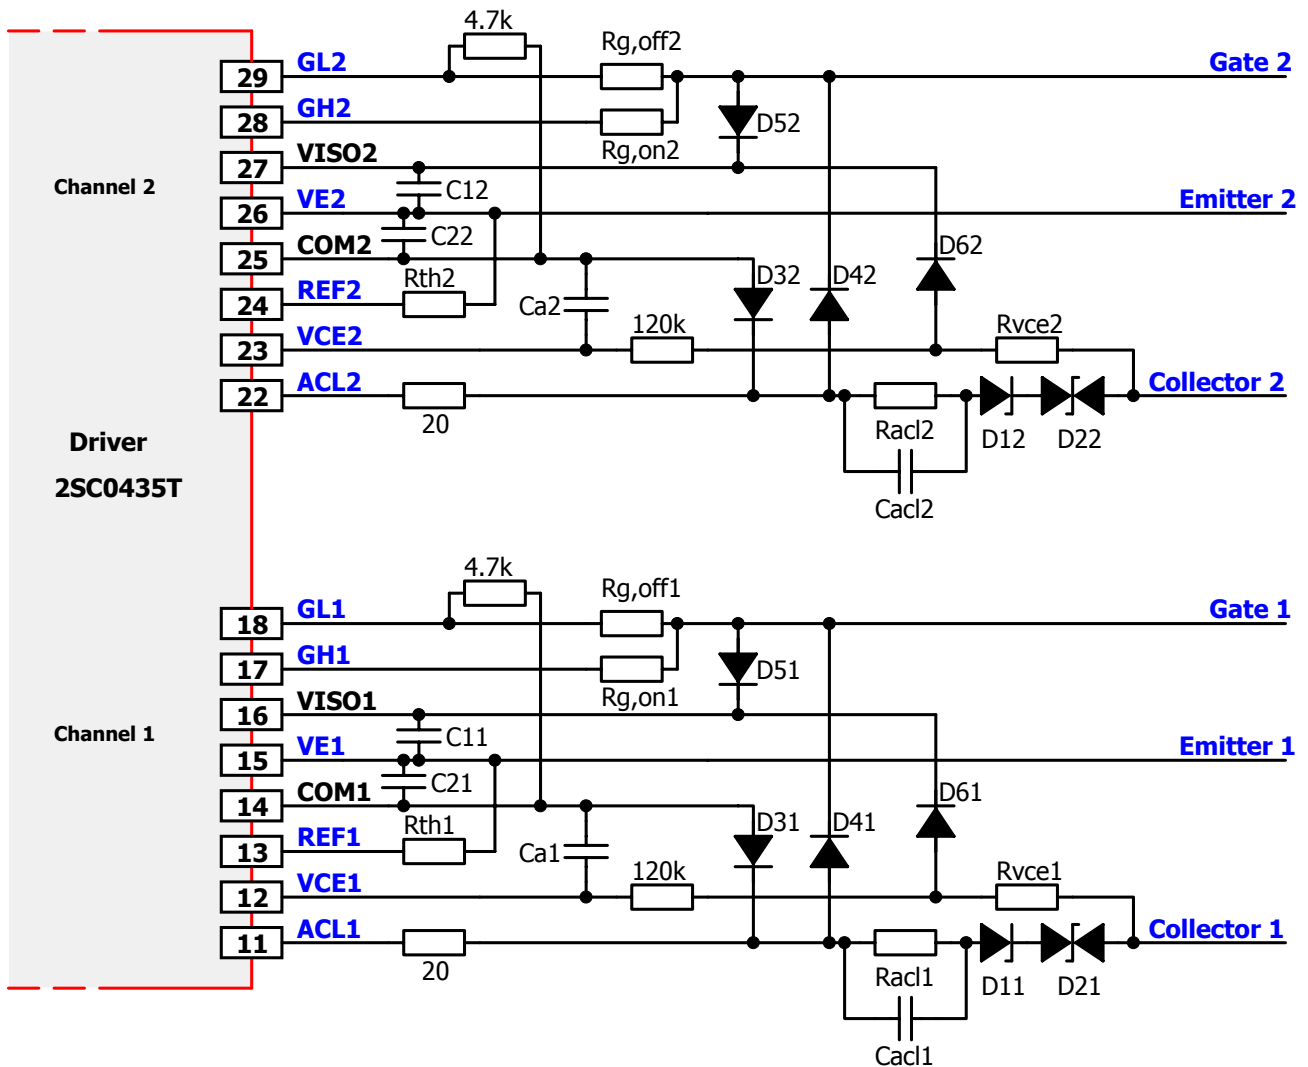

Fig. 7 Recommended user interface of 2SC0435T with advanced active clamping (secondary sides)
Power semiconductors with a gate charge of up to $3\mu\text{C}$ can be driven without additional capacitors on the secondary side. For IGBTs or MOSFETs with a higher gate charge, a minimum value of $3\mu\text{F}$ external blocking capacitance is recommended for every $1\mu\text{C}$ gate charge beyond $3\mu\text{C}$. The blocking capacitors must be placed between VISOx and VEx (C_{1x} in Fig. 7) as well as between VEx and COMx (C_{2x} in Fig. 7). They must be connected as close as possible to the driver's terminal pins with minimum inductance. It is recommended to use the same capacitance value for both C_{1x} and C_{2x} . Ceramic capacitors with a dielectric strength $>20\text{V}$ are recommended.
The collector sense must be connected to the IGBT collector or MOSFET drain with the circuit shown in Fig. 7 in order to detect an IGBT or MOSFET overcurrent or short-circuit.
Basic active clamping topologies implement a single feedback path from the IGBT's collector through transient voltage suppressor devices (TVS) to the IGBT gate. The 2SC0435T supports CONCEPT's advanced active clamping, where the feedback is also provided to the driver's secondary side at pin ACLx: as soon as the voltage on the right side of the 20Ω resistor (see Fig. 7) exceeds about 1.3V, the turn-off MOSFET is progressively switched off in order to improve the effectiveness of the active clamping and to reduce the losses in the TVS. The turn-off MOSFET is completely off when the voltage on the right side of the 20Ω resistors (see Fig. 7) approaches 20V (measured to COMx).
It is recommended to use the circuit shown in Fig. 7. The following parameters must be adapted to the application:
- The first mode is the default IGBT setup with both a positive (regulated) turn-on voltage of 15V (typical) and a second (non-regulated) turn-off voltage (see Fig. 7).
Each channel of the 2SC0435T driver is equipped with a V_{ce} monitoring circuit. The recommended external circuitry is shown in Fig. 7. A resistor (R_{thx} in Fig. 7) is used as the reference element for defining the turn-off threshold. The value of the current through R_{thx} is 150μA (typical). It is recommended to choose threshold levels of about 10V (R_{thx} values around 68kΩ). In this case the driver will safely protect the IGBT against short-circuit, but not necessarily against overcurrent. Overcurrent protection has a lower timing priority and is recommended to be realized within the host controller.